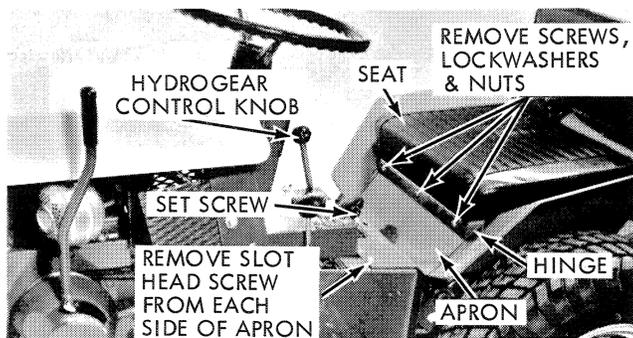

Figure 7
3. Remove the seat apron and the seat from the tractor by removing 5 slot head screws, 3 lockwashers and 3 nuts. (Fig. 7).